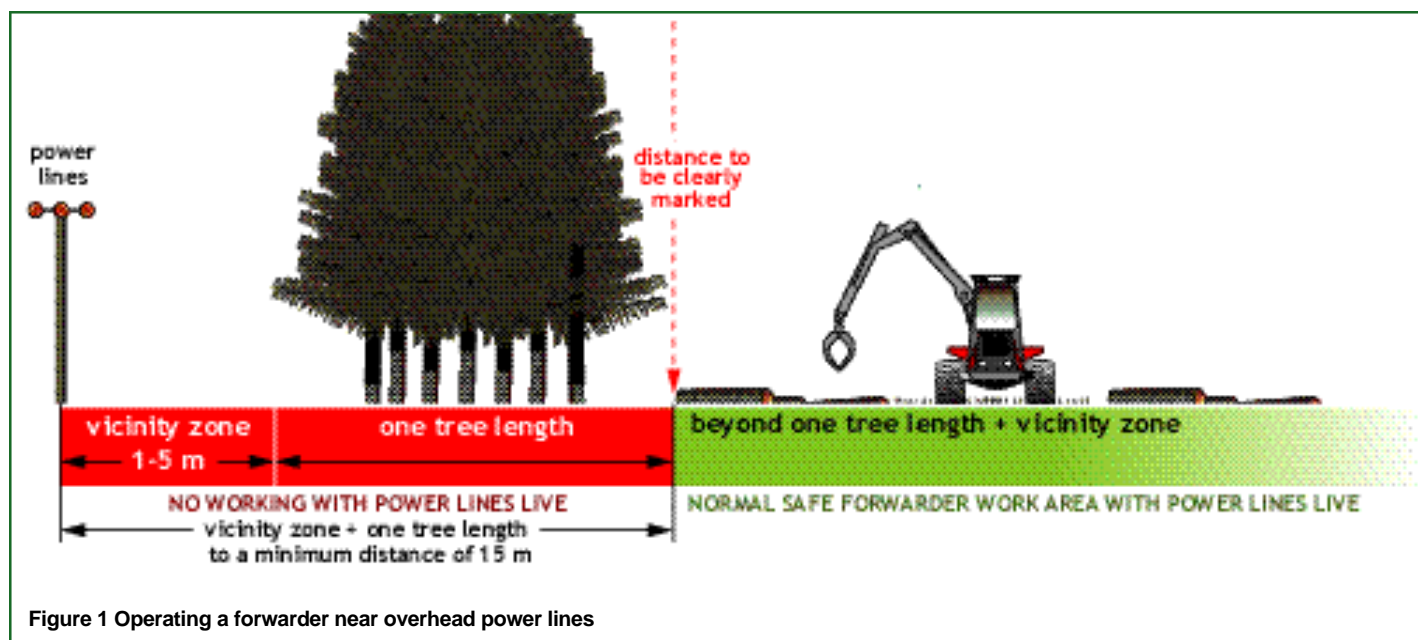

Figure 1 Operating a forwarder near overhead power lines
- 15 Do not operate the loader if any part of the machine or its load can come within one tree length + the vicinity zone (down to a minimum distance of 15 m) of energised overhead power lines (see Figure 1). The vicinity zone will vary between 1 m and 5 m depending on line voltages (see AFAG leaflet 804 *Electricity at work: Forestry and arboriculture*).